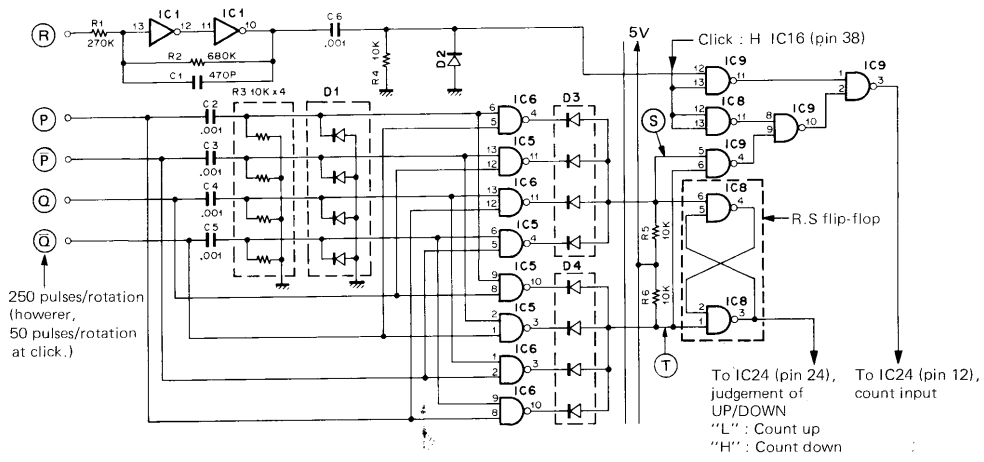

Fig. 13 Output waveform of main encoder
Fig. 12 shows the configuration of the encoder section. The control pulse of the main dial "click" detent mechanism is as shown in Fig. 13. When operating the [CH.O], [CS], [VFO/M], [M-V], [SELECT], etc., keys, the CPU performs its associated process, judges whether or not the dial is detented, and inputs the status signal of the sensor (pin PS) to IC16 PCO (pin 14). For example, when the dial detent is activated, as when the dial is already detented when pin PS is "H", the process ends. However, when pin PS is "L", a 100msec pulse is emitted from PA3 IC16 pin 17, thereupon the plunger drive pulse (PN) is emitted through the switching operation of Q12 : DTC143T(S), Q13 : 2SC2459(Y) or Q14 : 2SA1307(Y).